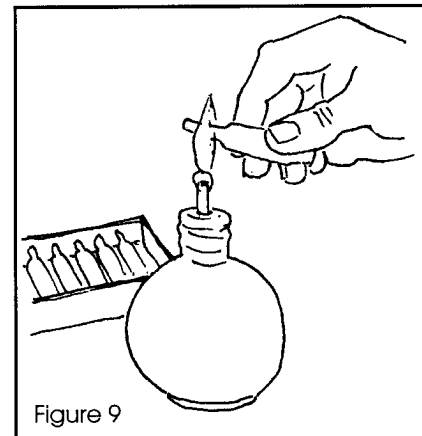

Figure 9
- d. Sterilize the neck of the ampoule by holding as is shown in Figure 9 and quickly passing it through the flame while turning it so that all sides of the extended neck are sterilized.